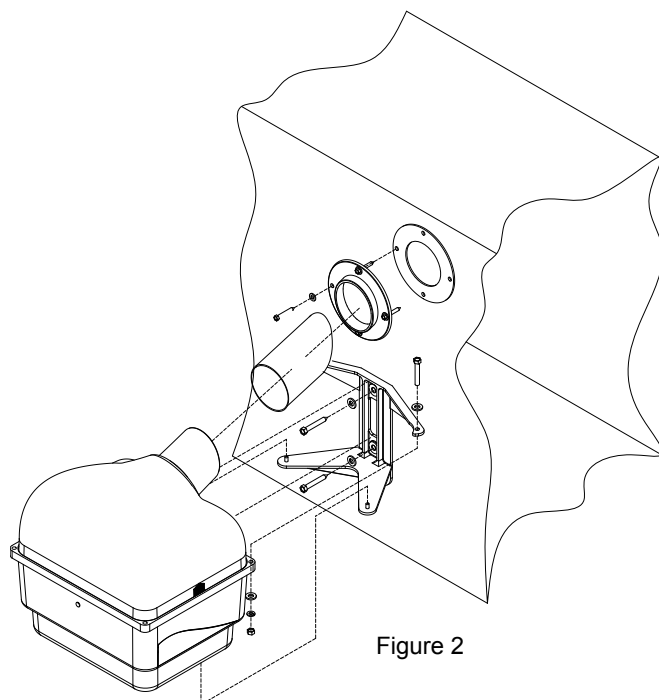

Figure 2
1. Referring to figure 2, using the mounting template, mark the mounting holes and discharge hole as indicated on the return duct. Ensure that the discharge tube is lined up with the centerline of the duct.